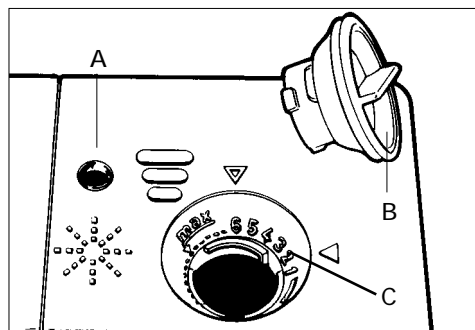

fig. 5
- Open the rinsing agent reservoir (see fig. 5) on the inside of the door, next to the detergent reservoir. The means of operation will depend on the type of dishwasher: the containers all work on the basis of the same principle.
- Every now and again check the level of the rinse-aid. The level gauge (A) is located to the upper left of the lid. Reservoir empty: ○. Reservoir full: ●.
- The correct quantity of rinse-aid per washing cycle is adjustable. Turn the knob (B) in the container to the desired setting (C). The amount of rinse-aid is in proportion to the numbers on the knob.